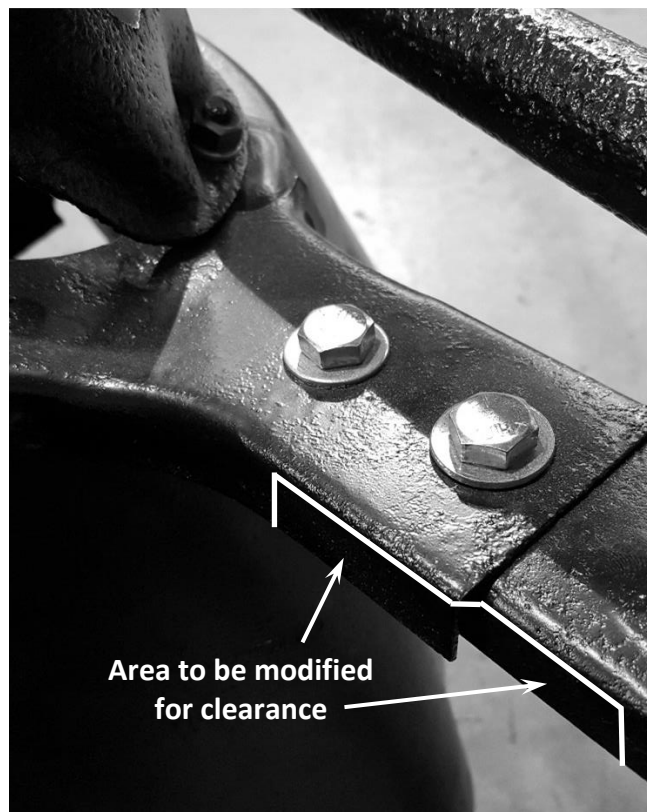

Figure 4 – Shock Tower Brace Modification
- a. Figure 4 below shows the area on the shock tower brace that will possibly require modification. **NOTE:** If modification is necessary, remove only the material necessary to allow for clearance of the master cylinder along with the removal of the cap. **It is strongly recommended to pre-fit the booster/master assembly before cutting anything.**